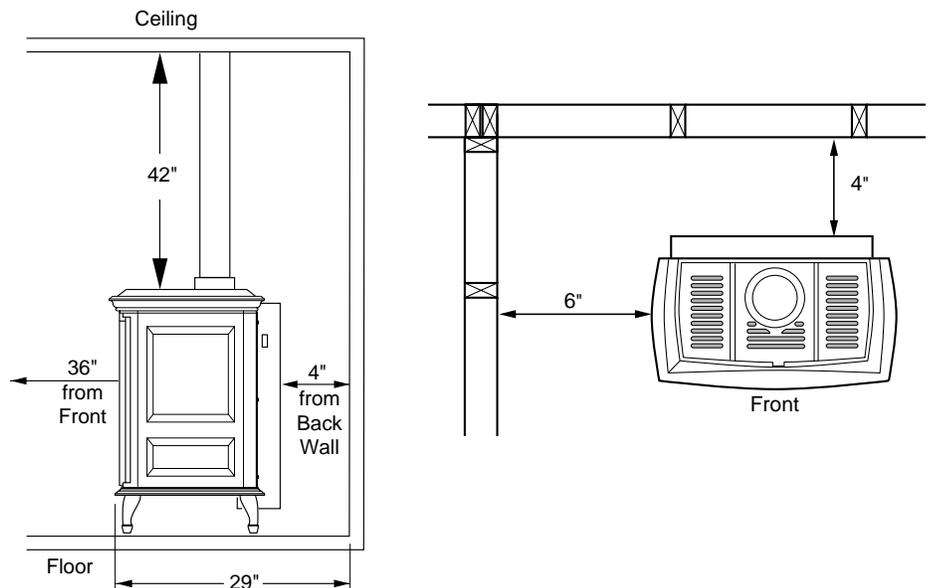

Figure 3 - Minimum Clearances for Standard Installation
3. Proper clearances must be maintained, see Figures 3 and 4.